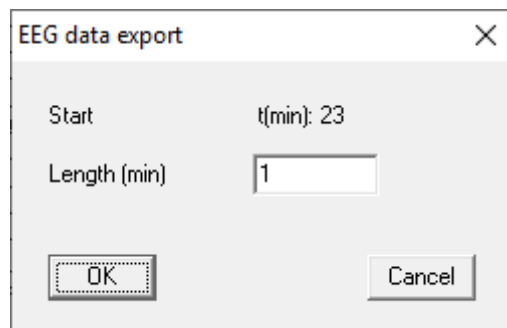

Figure 19
- 2) In the “EEG data export” window (Figure 19), select the length in minutes for the data export (from the starting time) and click OK. A file with one EEG sample (in uV) per line is generated.